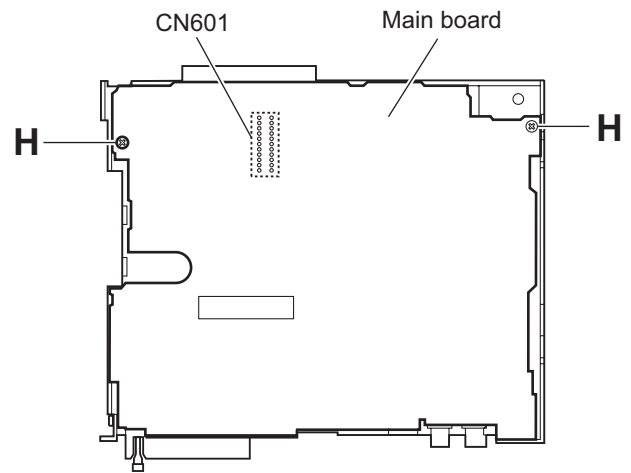

Fig.7
2.1.6 Removing the main board (See Fig.7)